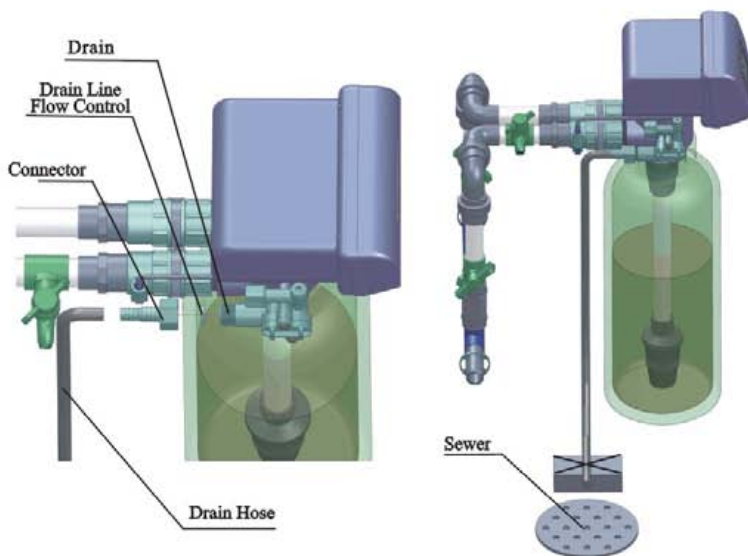

Figure1-4
- As the Figure 1-4 shows, slide the drain hose connector into drain outlet.
- Locate the drain hose well as the Figure1-4 show.
- Be sure not connect drain with sewer, and leave a certain space between them, avoid wastewater be absorbing to the water treatment equipment, such as showed in the Figure1-4.